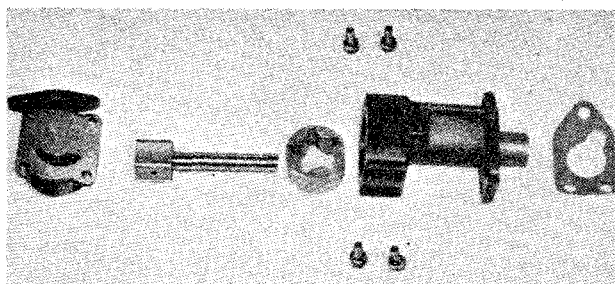

Fig. 14 Exploded view of Oil Pump.
- (k) **The Hobourn-Eaton Double Rotor Oil Pump** (Fig. 14) is of the submerged type and is self priming; oil is drawn from the engine sump through a gauze filter. The oil is fed to the oil gallery and to the Purolator oil filter.
The oil pump is of the double rotor type as shown in Fig. 14.